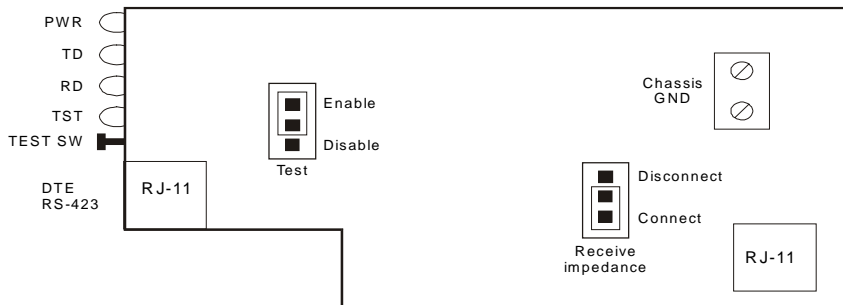

Figure 2. Strapping Diagram
5. Strap the card according to Table 2 (See Figure 2).